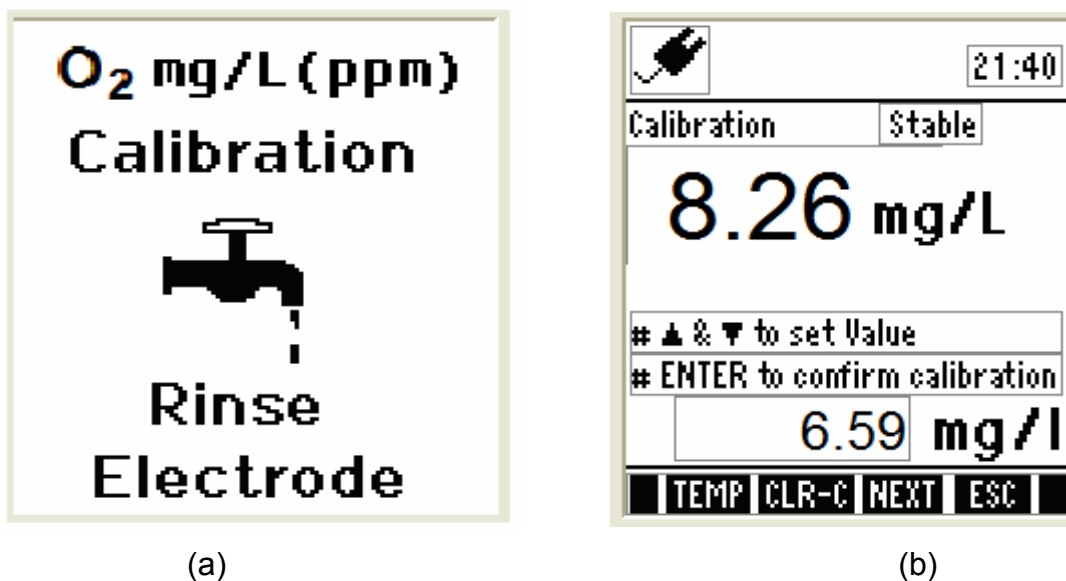

Figure 62 : Concentration calibration screens
5. The meter then shows the concentration calibration screen [Figure 62(a)].
6. The upper display of the calibration screen [Figure 62(b)] will show the current value of the measurement and the secondary display will show the value to which the meter is going to be calibrated. Press **▲** & **▼** keys to adjust the reading to the known oxygen concentration of the sample.